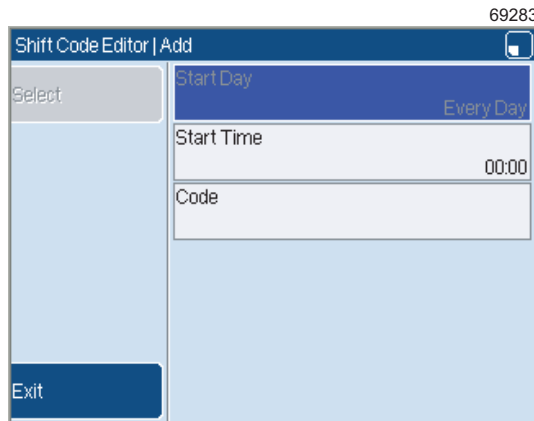

Figure 6. Add page: Daily shift code
- 4 To insert the first item, press the **Add** key. The printer displays the **Add** page (Figure 6). If you selected a Daily shift code, the **Start Day** option is not available.